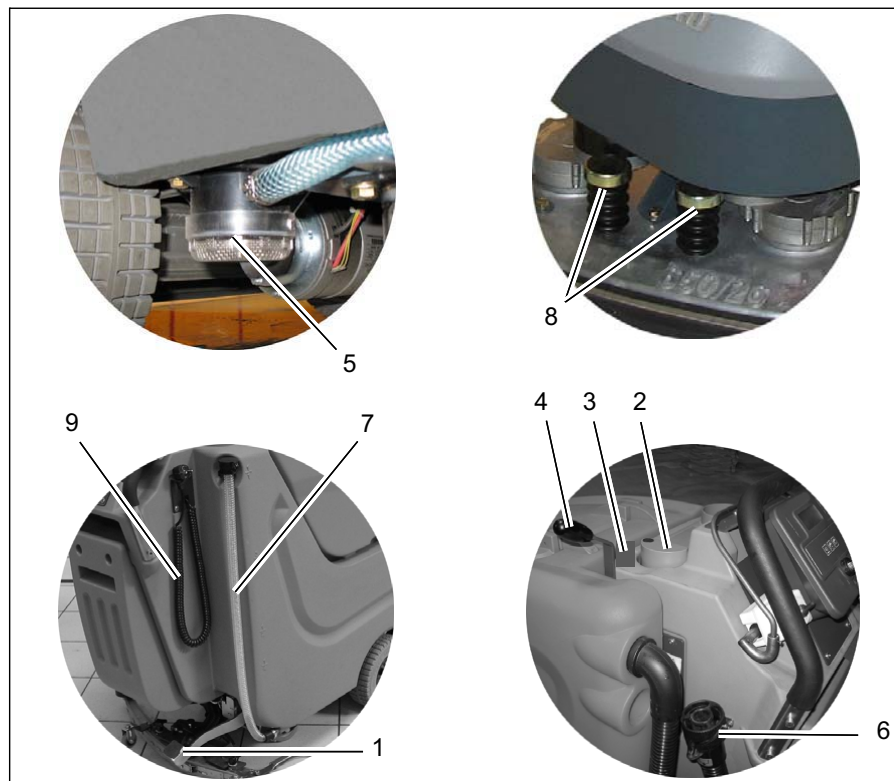

Fig.5
2. Use lever (Fig5/4) to lower squeegee. Vacuum motor switches on automatically.
3. Use solution control (Fig5/3) to set the desired flow rate.\*\*\*
4. Use pedal (Fig5/1) to lower brush deck. The solution supply switches on automatically.
### **Brush deck pedal (Fig. 5/1)**
### **Opening of solution tank (Fig. 5/2)**
### **Solution control (Fig. 5/3)**
### **Squeegee lever (Fig. 5/4)**
### **Solution tank filter (Fig. 5/5)**
### **Recovery tank drain hose (Fig. 5/6)**
### **Solution tank drain hose (Fig. 5/7)**
### **Brush ejector (Fig. 5/8)**
### **Power connection (Fig. 5/9)**